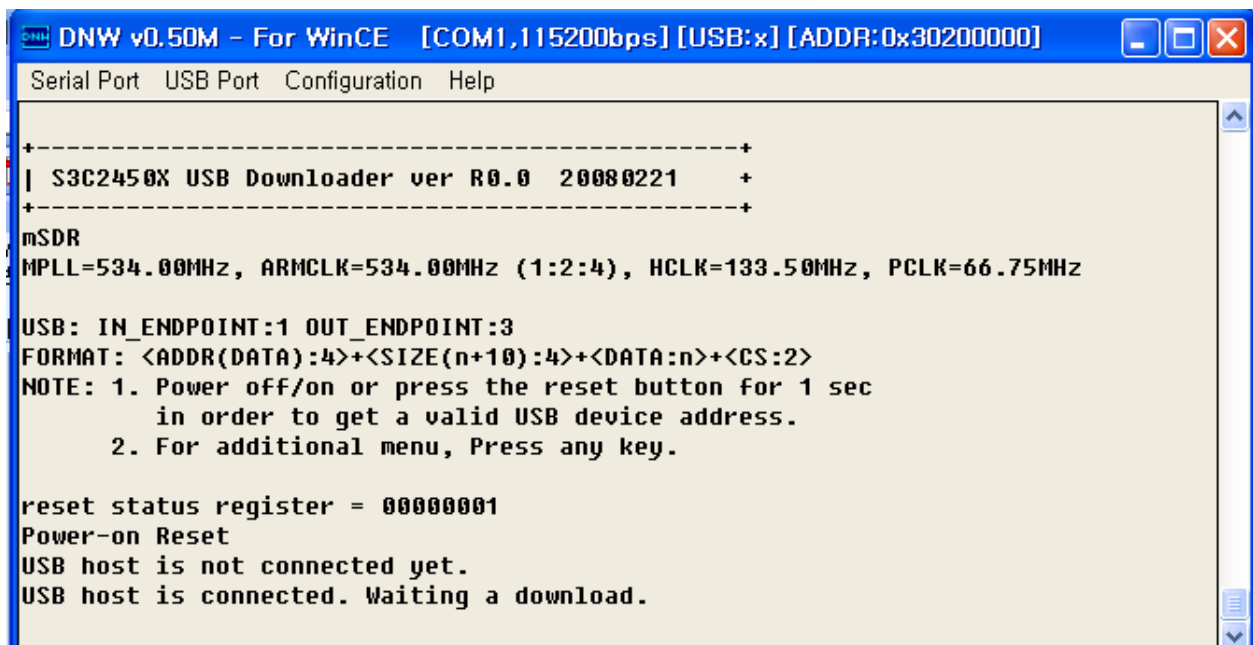

Figure 5-7 DNW Window after Board Power ON
- On the **Serial Port** menu, click **Connect**. Switch ON the reference board and then press any key. The DNW window appears as shown in figure 5-7.